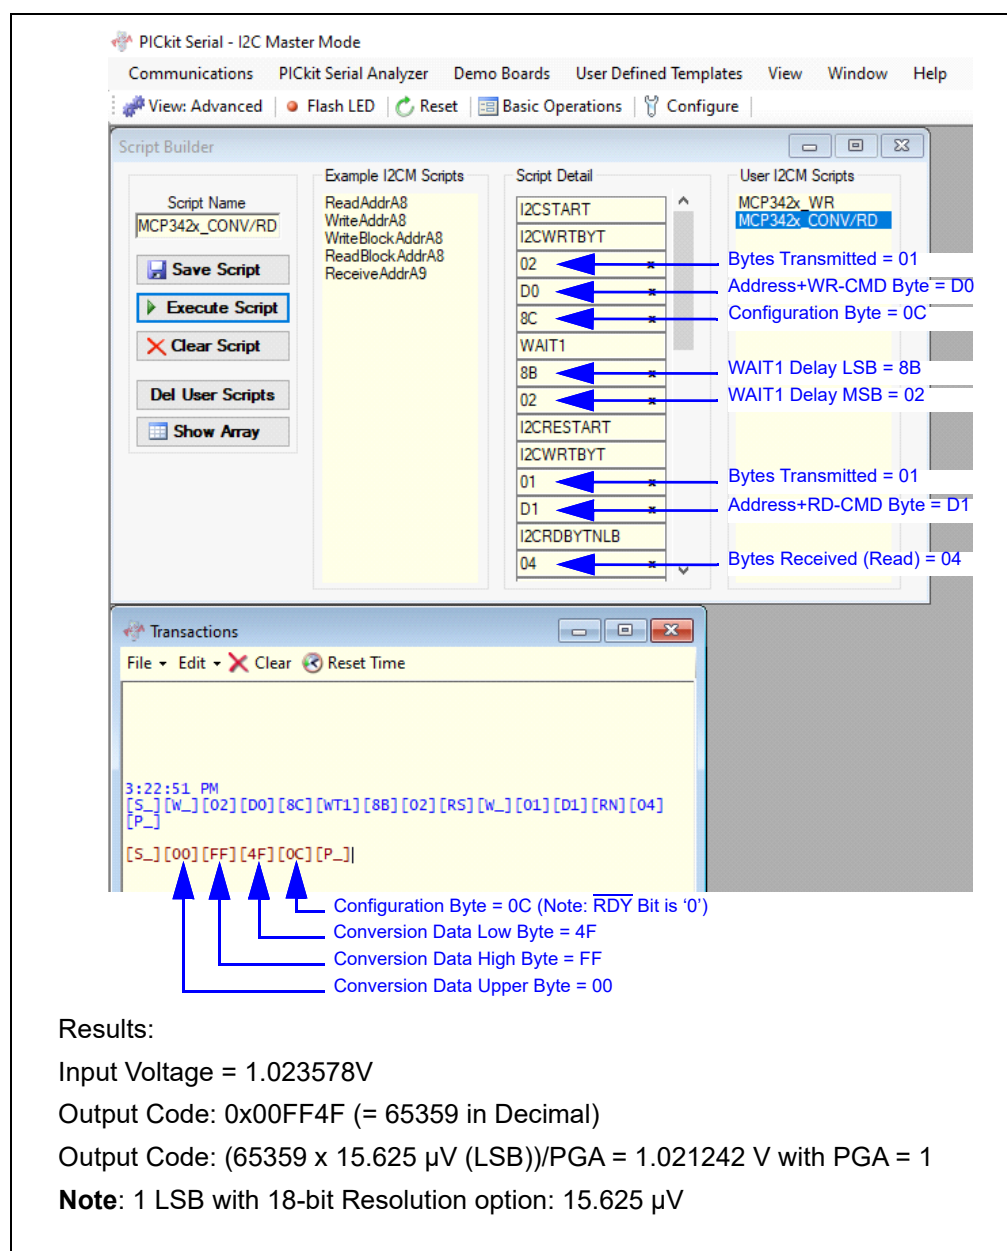

FIGURE 2-10: PICkit™ Serial I²C Conversion and Read Command.
7. Change the 4th, 5th, 7th, 8th, 12th and 14th parameter values in the “Script Detail” column per the desired device operation (see Figure 2-10).